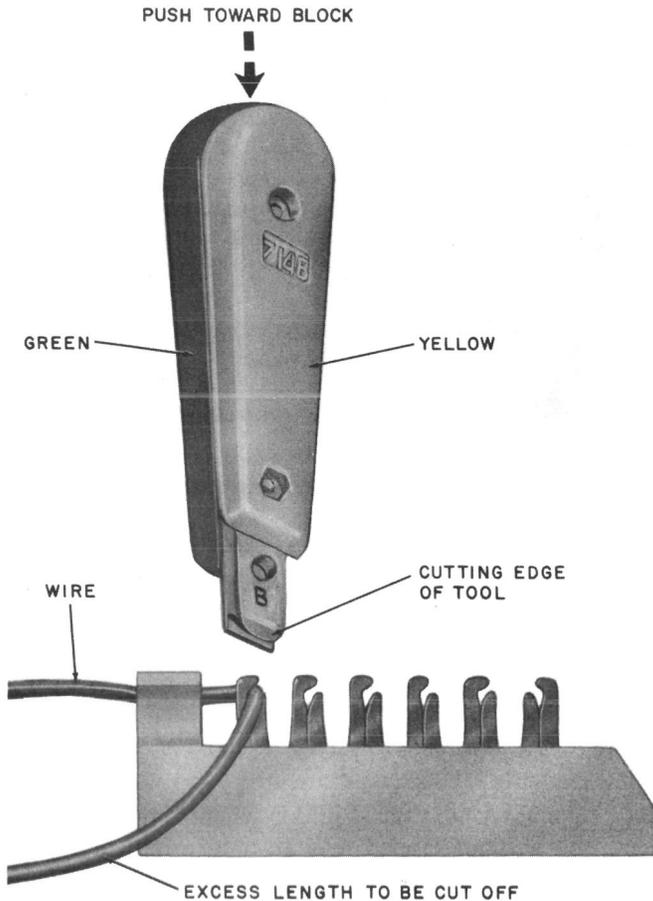

Fig. 9—Preparation for Making Ended Termination
3.07 To make an **ended termination** (Fig. 9 and 10) using the 714B or D impact tool, observe the following procedure: